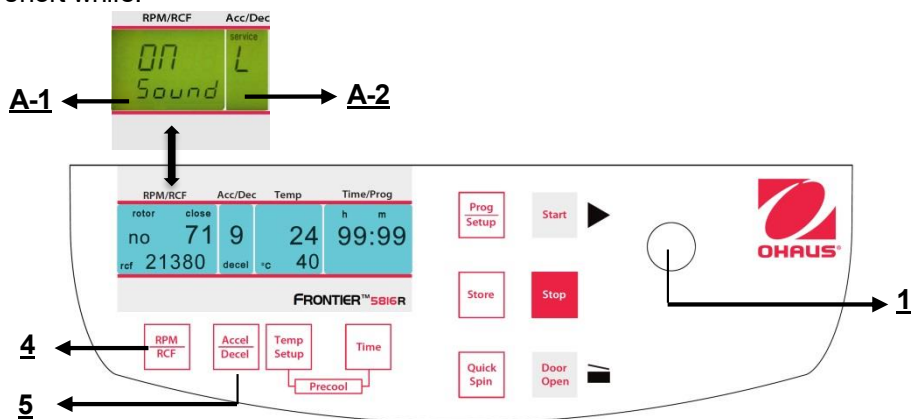

Figure. 32
Proceed as described under point 4.1.1 to enter this program mode and then press the key **"Accel/Decel"** (5). In the display **"Acc/Dec"** (A-2) the word **"Service"** flashes. Now select the letter **"L"** with the adjusting knob (1). As a result, the words **"On Sound"** appears in the display **"RPM | RCF"** (4). If you press the key **"RPM | RCF"** (4) now, the word **"On"** flashes and you can switch off the sound with the adjusting knob (1) (See figure 32). After you have stored the settings (See 4.1.1) you change back to the normal program mode again by switching off the centrifuge for a short while.